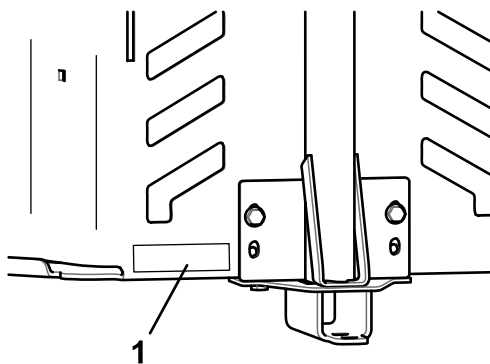

Figure 9
5. Attach the draw bar decal 1.3 cm (1/2 inch) to the left of the attachment mount (Figure 9).